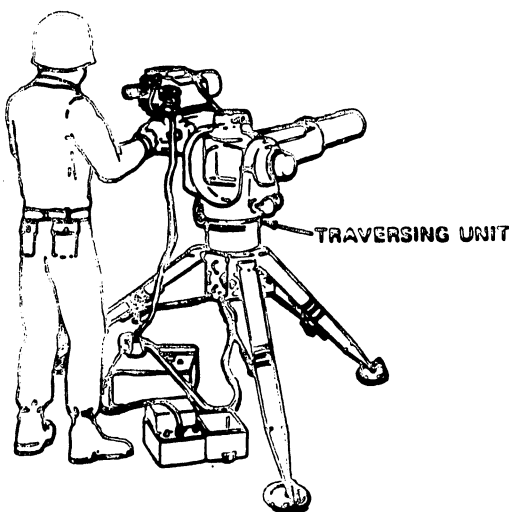

Fig 4-1. Correct position behind the launcher.
Step 1. Stand on the left side of the launcher (fig 4-1).